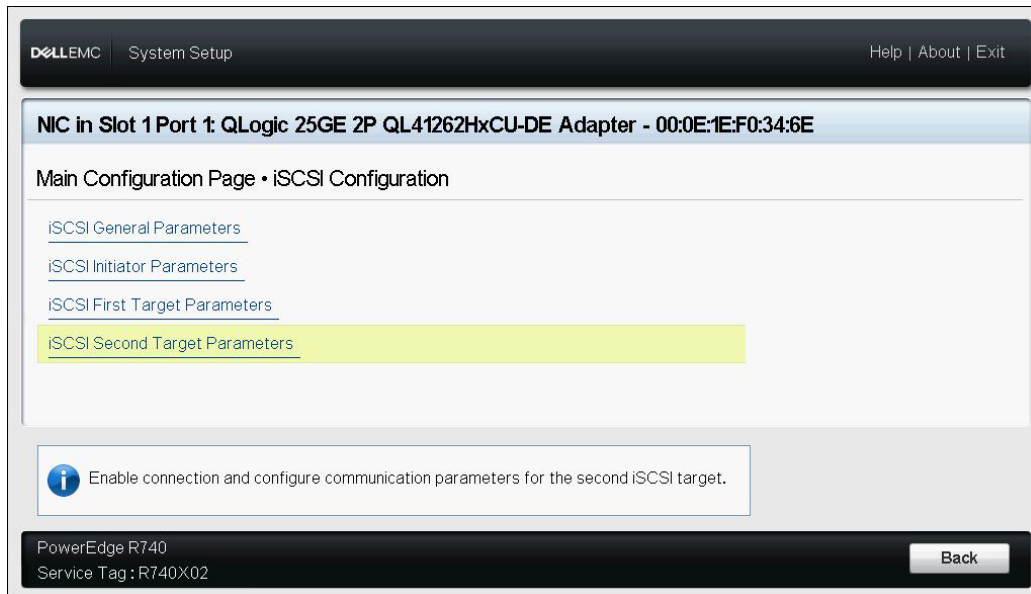

Figure 6-12. System Setup: iSCSI Second Target Parameters
12. If you want to configure a second iSCSI target device, select **iSCSI Second Target Parameters** (Figure 6-12), and enter the parameter values as you did in Step 10. This second target is used if the first target cannot be connected to. Otherwise, proceed to Step 13.